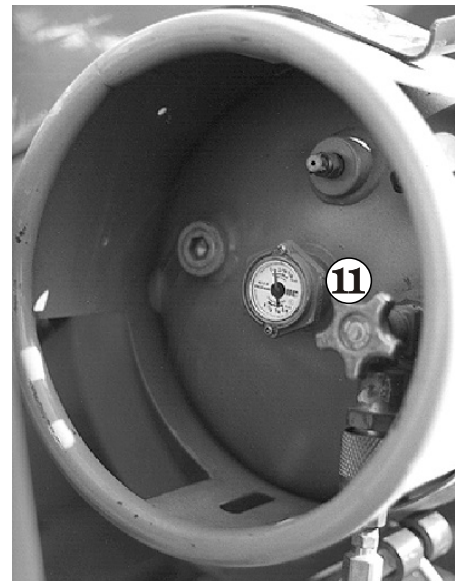

Figure 10.4
Close the valve ❶❶ (see Figure 10.4) on the LPG-tank (completely screwed in).